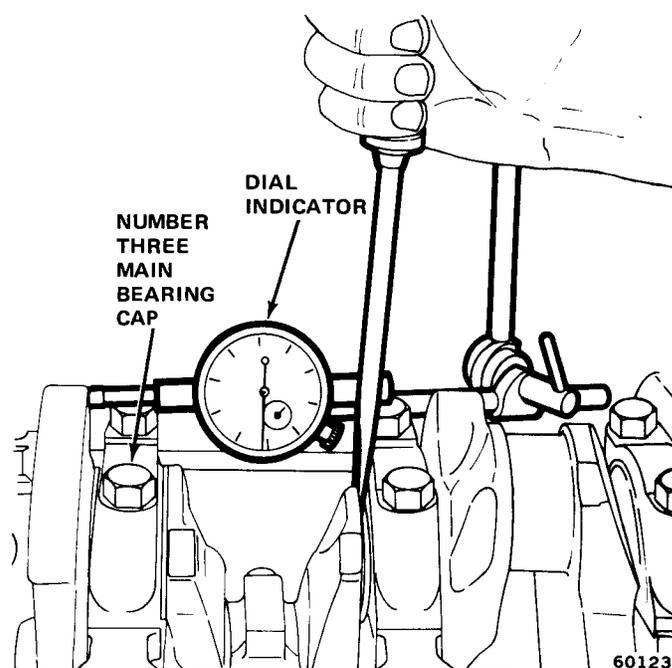

Fig. 1A-46 Measuring Crankshaft End Play
(1) Attach a dial indicator to cylinder block adjacent to No. 3 main bearing.
(2) Pry shaft forward with a flat-bladed screwdriver, set dial indicator, push rod on face of crankshaft counterweight, and set to zero.
(3) Pry shaft fore and aft. Read dial indicator (fig. 1A-46). The end play is the difference between the high and low readings.
(4) The correct crankshaft end play is 0.0015 to 0.0065 inch (0.002 to 0.0025 desired).
(5) If end play is incorrect according to specifications, inspect crankshaft thrust faces for wear. If no wear is apparent, replace thrust bearing and recheck end play. If end play is still outside specifications, the crankshaft must be replaced.